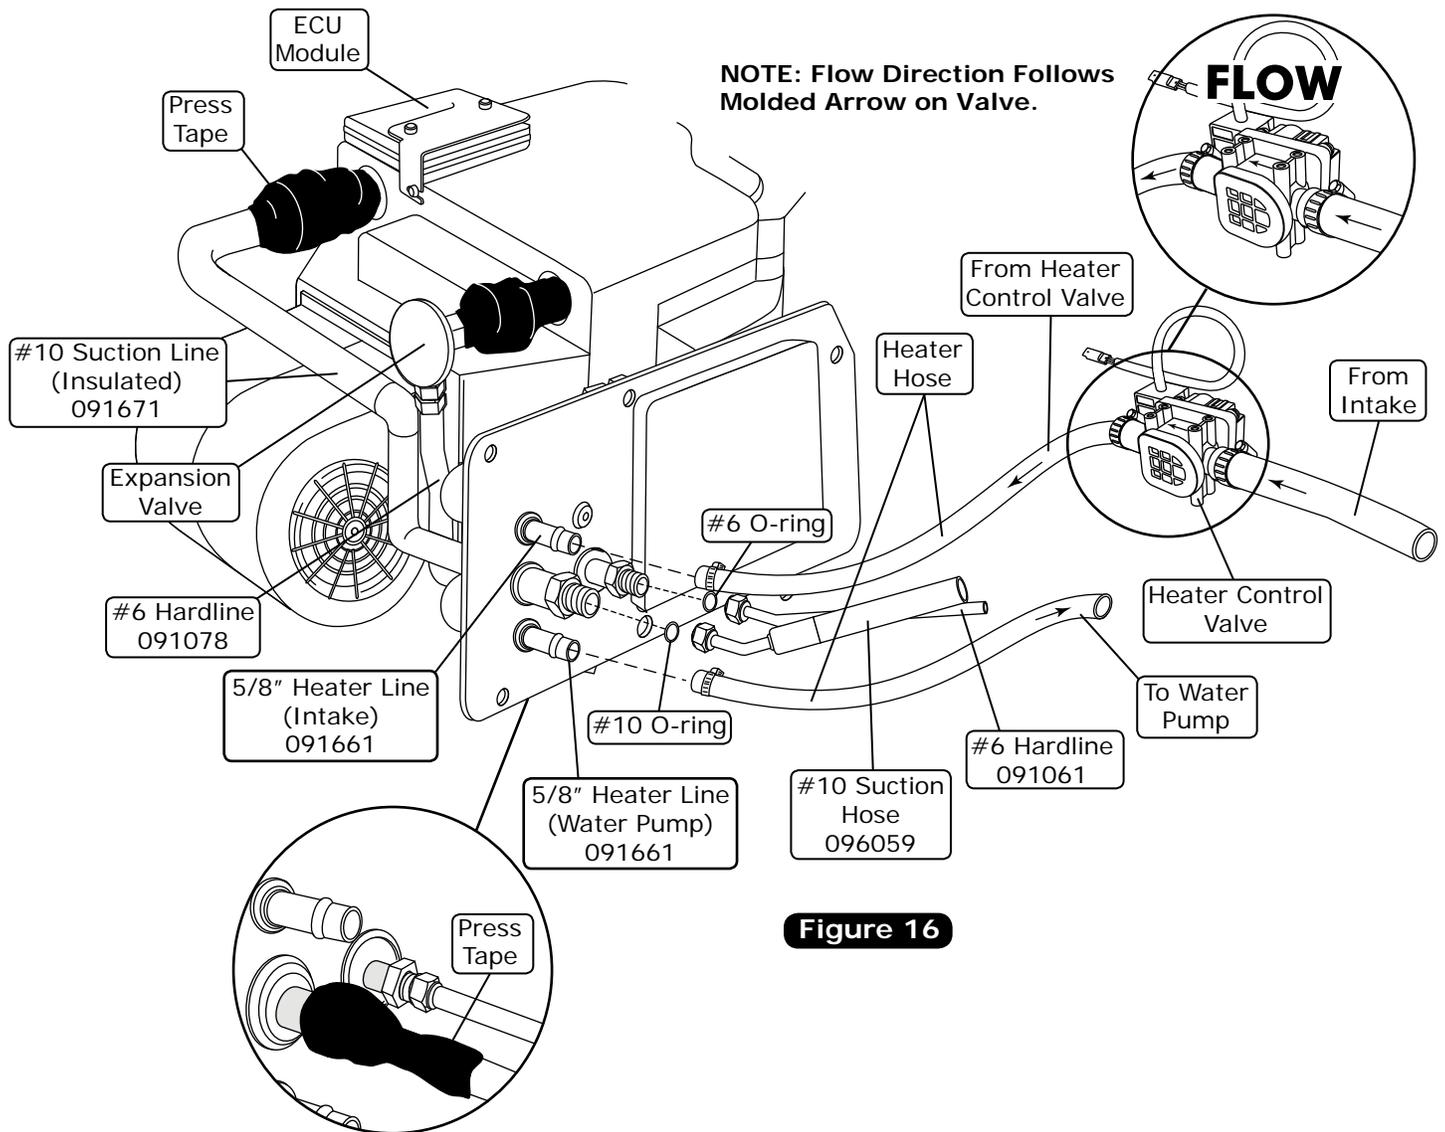
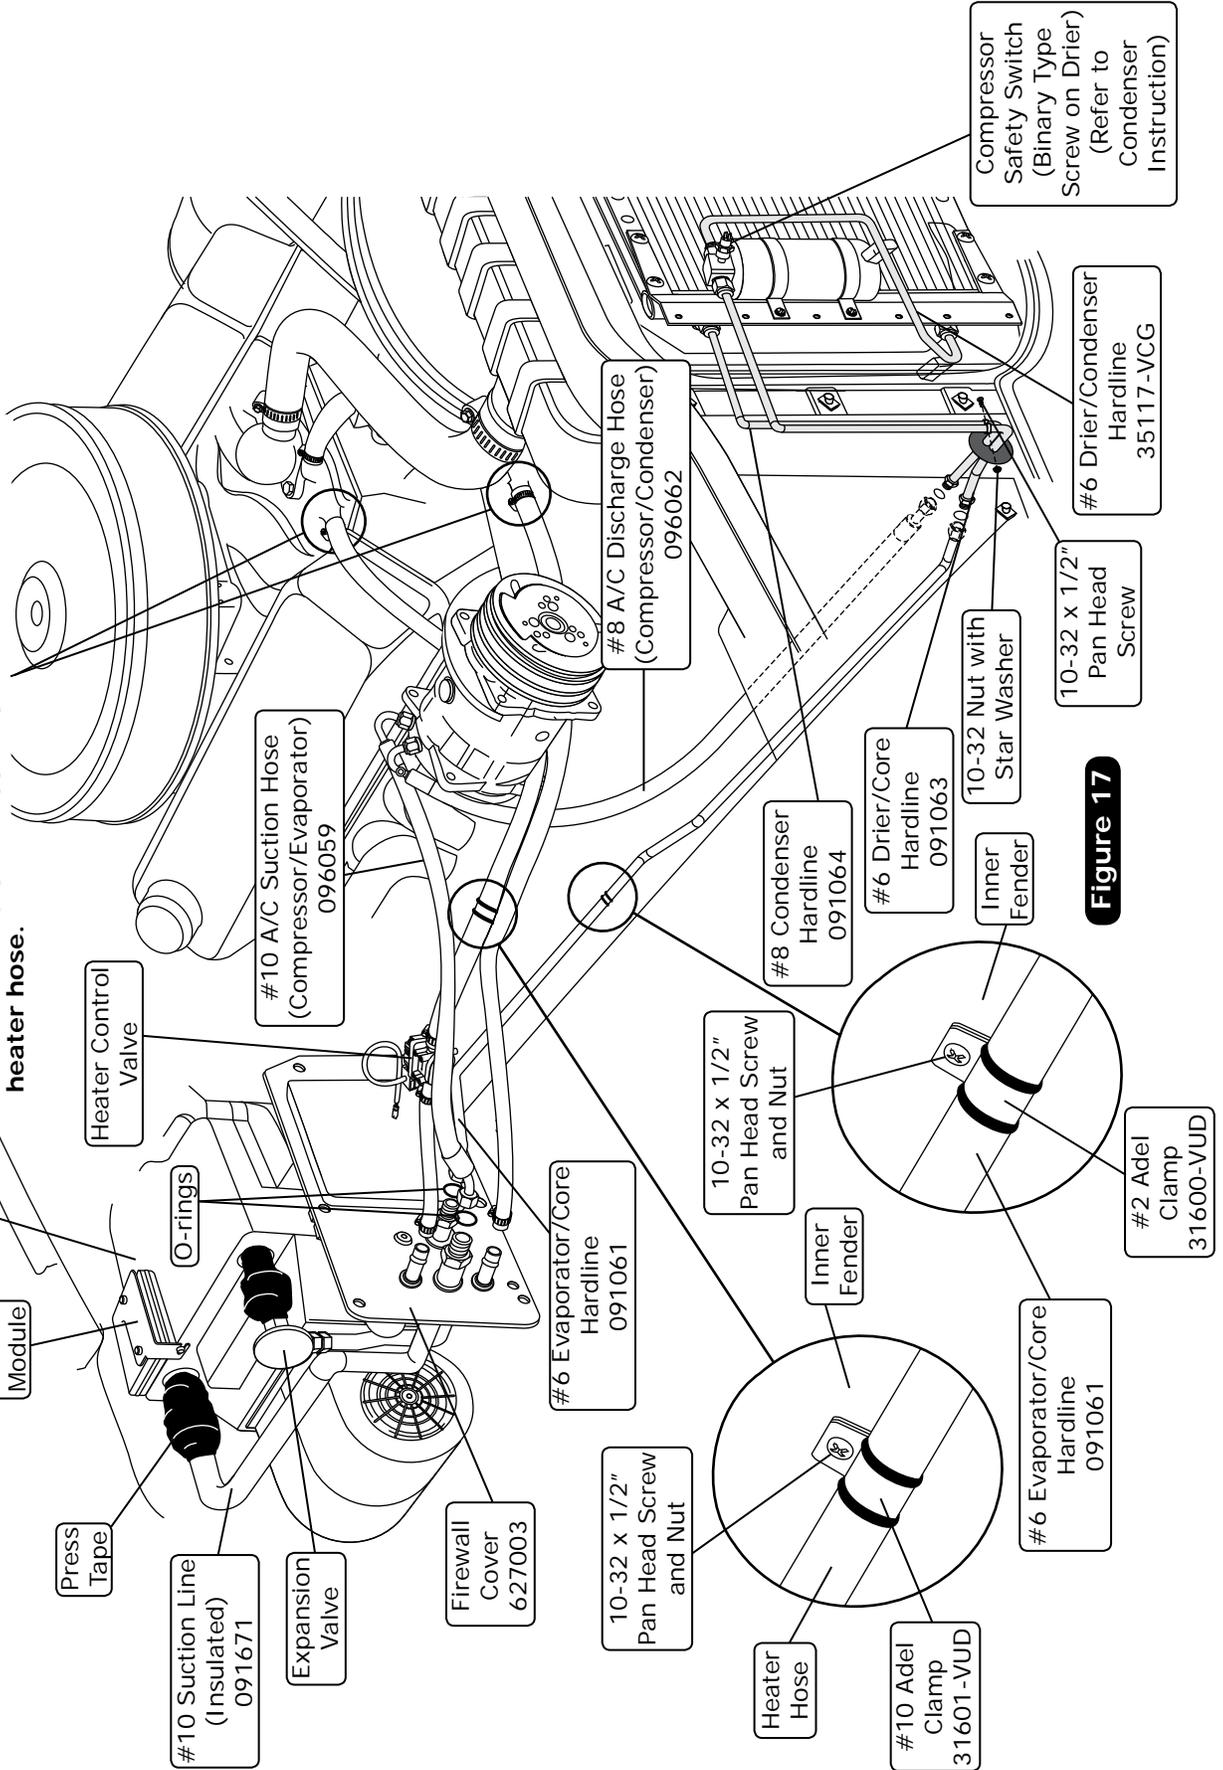

Figure 16
Figure 17
1. Locate the #8 compressor A/C hose. Lubricate (2) #8 O-rings (See Figure 15, above) and connect the 135° female fitting with 134a service port to the #8 discharge port on the compressor. Then route the straight female fitting to the #8 condenser hardline coming through the core support (See Figure 17, Page 16). Tighten each fitting connection as shown in Figure 15, above.
2. Locate the #10 compressor A/C hose. Lubricate (2) #10 O-rings (See Figure 15, above) and connect the #10 135° female fitting with 134a service port to the #10 suction port on the compressor. Then route the 45° female fitting to the #10 evaporator hardline coming through the firewall (See Figure 17, Page 16). Tighten each fitting connection as shown in Figure 15, above. **NOTE: Wrap the #10 fitting connections with press tape (See Figure 16, Page 15).**
3. Locate the #6 evaporator/core hardline. Lubricate (2) #6 O-rings (See Figure 15, above) and connect the hardline to the #6 hardline coming through the core support from the drier. Then attach the other end of the hardline with lubricated O-ring to the #6 evaporator hardline coming through the firewall (See Figure 17, Page 16). Tighten each fitting connection as shown in Figure 15, above.
4. Use a #2 and a #10 Adel clamp to secure the #6 evaporator/core hardline and the 5/8" heater hose to the inner fenderwell as shown in Figure 17, Page 16. Secure the Adel clamps to the inner fender using (2) 10-32 x 1/2" pan head screws with nuts.
1. Route the heater hose from the water pump to the heater line coming through the firewall as shown in Figure 16, below. Secure using hose clamps.
2. Route the heater hose from the intake to the heater line coming through the firewall as shown in Figure 16, below. **NOTE:** Install the heater control valve in line with the intake manifold (pressure side) heater hose, and secure using hose clamps. Also note proper flow direction.